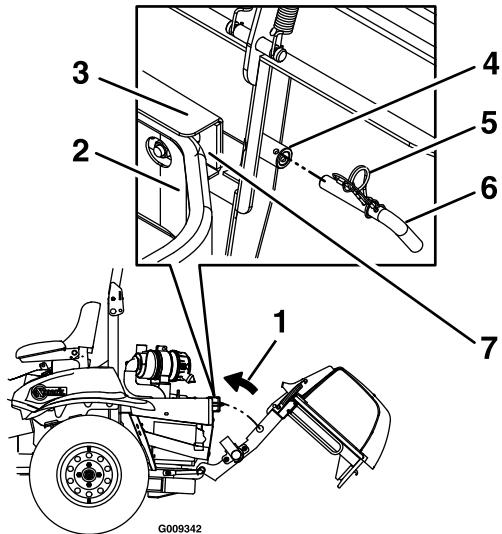

Figure 24
4. Lift the hopper assembly and pivot it upward towards the back of the unit (see Figure 24).
8. Install the mount pin into the frame mount barrel. Make sure that it extends into the opening between the rear bumper and the mount bracket (see Figure 24).